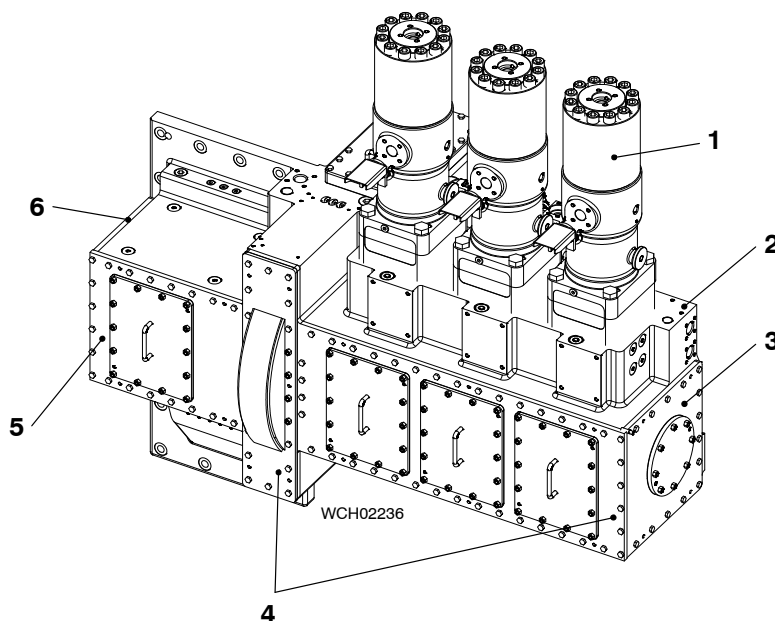

Fig. 1
- 1) Remove the covers (3, 4, 5 and 6, Fig. 1) from the housing (2).
- 2) Remove the fuel pumps (1) refer to 5556 1, paragraph 1 and paragraph 2. As an alternative, lift the rollers (refer to step 3) and step 4).